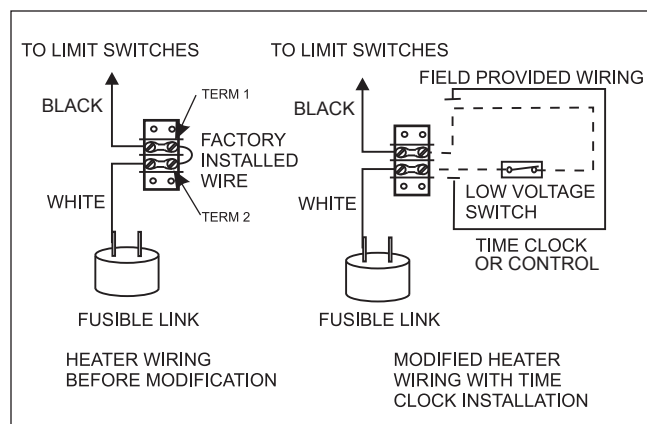

Figure 15. Fireman's Switch or Control Connection
To install a time clock auxiliary switch into the heater wires (see Figure 15):
2. Remove the factory installed wire between terminals 1 and 2 on the terminal strip (see Figure 15).